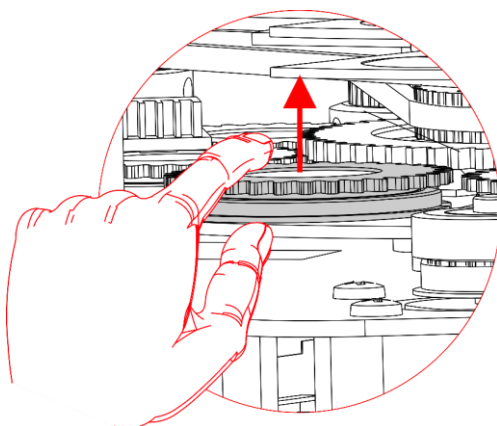
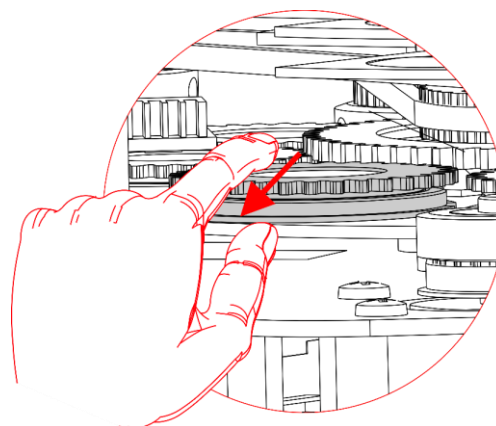

Fig. 15
Fig. 16
- 07) Gently lift the gobo holder a bit up and pull it out from the rotating gobo wheel, as shown on Fig. 15 and Fig. 16.